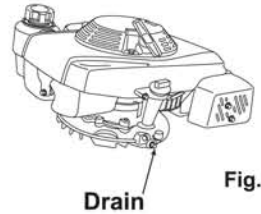

Fig. 33
2. Extract the fuel from the fuel tank and the carburetor. (See Fig. 33)